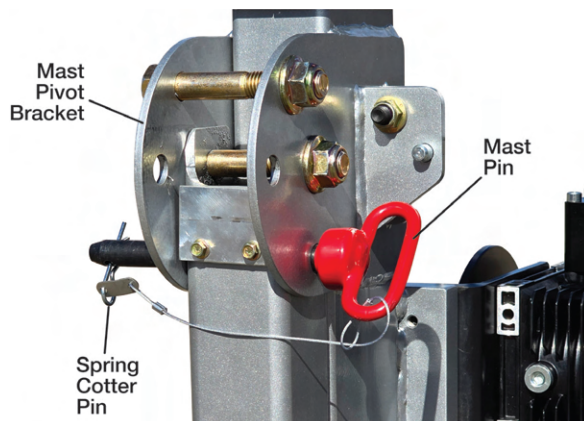

Figure 7-7: Installing Mast Pin
7. Insert mast pin through mast pivot bracket and square tube. Attach spring cotter pin to the mast pin. See Figure 7-7.